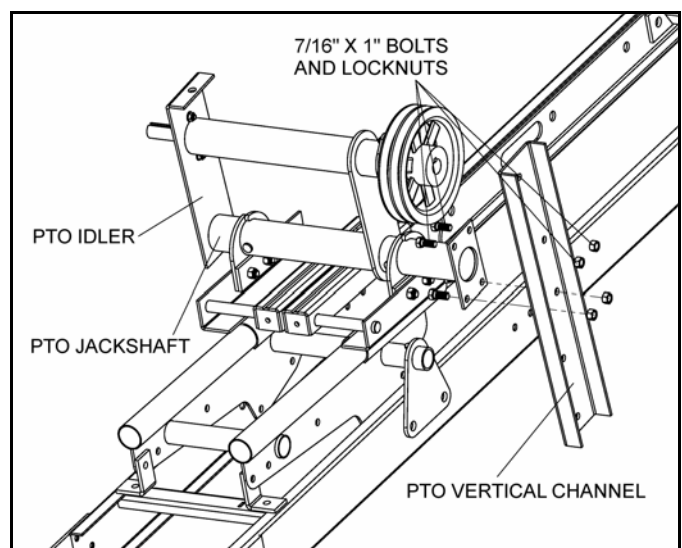

Figure 3.43
- Install PTO vertical channel to the end of PTO jackshaft with four 7/16" x 1" bolts and locknuts. Ensure that PTO vertical channel is positioned as shown in Figure 3.43.